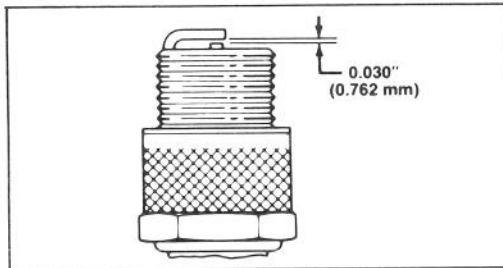

Figure 13
2. For easier adjustment, lift housing up so wheel is off ground. Squeeze adjusting lever toward wheel and move them to desired setting (Fig. 13). Assure pin on adjusting lever engages notch in housing. Adjust all wheels to the same setting.
3. Set air gap at 0.030" (0.762 mm) (Fig. 13). Install correctly gapped spark plug and gasket seal. Tighten plug firmly to 15 ft-lb (20.4 N·m).